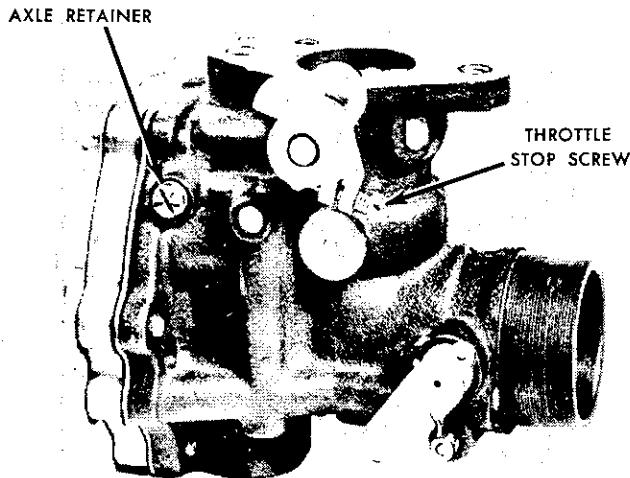

FIG. 2
1. Turn throttle stop screw to left until throttle plate is fully closed, Fig. 2.